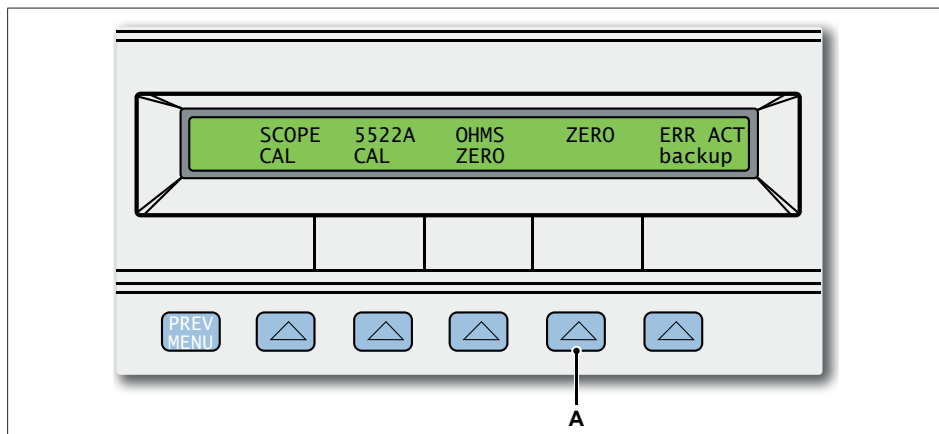

Fig. E.16 Fluke 5522A Calibration activity display
5. The Fluke 5522A Calibration activity display appears (see Fig. E.16). Select the **ZERO** button to perform a complete zeroing of the Fluke 5522A Calibrator.